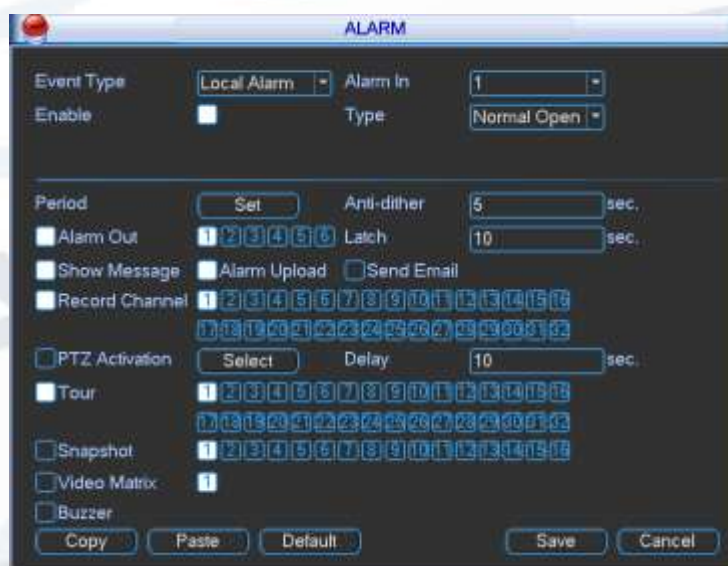

Figure 4-34
Alarm interface is shown as below. See Figure 4-34.
- **PTZ activation:** Here you can set PTZ movement when alarm occurs. Such as go to preset, tour& pattern when there is an alarm. Click “select” button, you can see an interface is shown as in Figure 4-34.